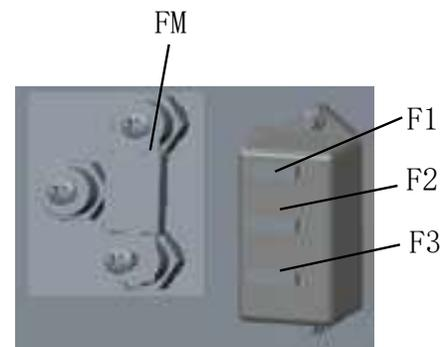

Figure18
- 1) Remove the electrical component box cover (47).
- 2) Check/replace the following fuse (fig. 18):
- 4) Check/replace the relevant fuse among the following (fig. 18):